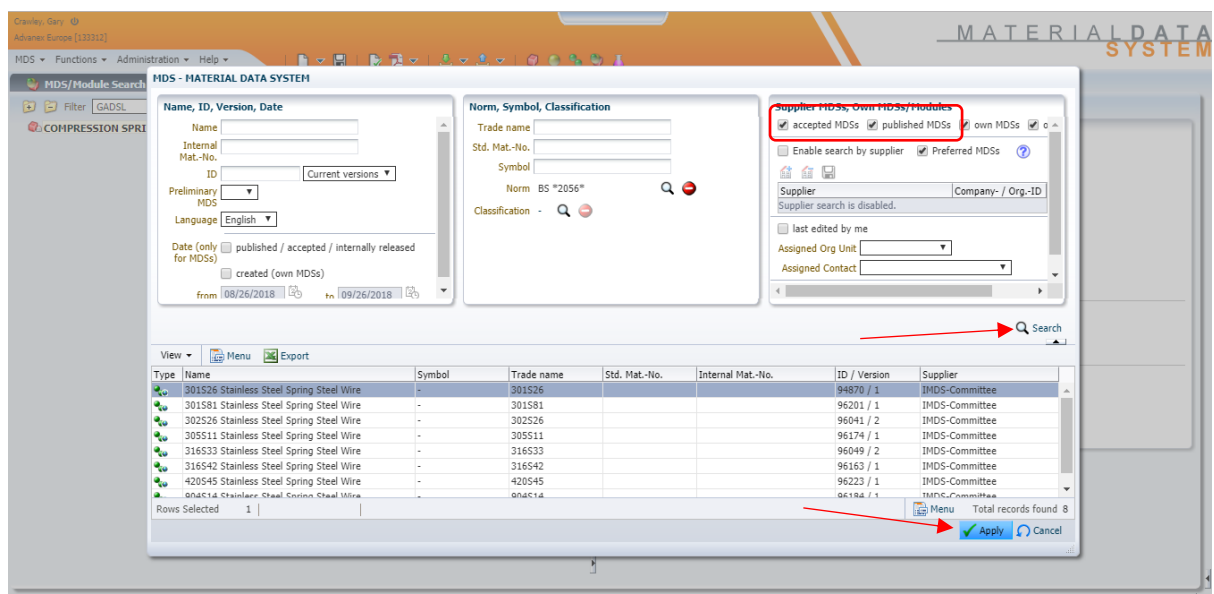

Fig.5
9. Select the relevant material from the table and click 'Apply'. (Fig5)